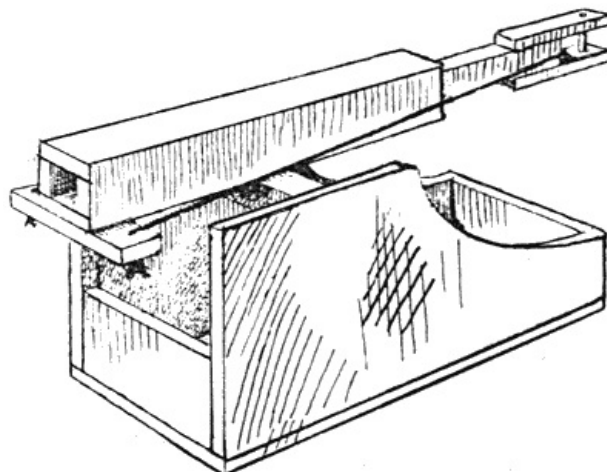

FIG. 16.
*Toy Cannon*—one quite easily made at a negligible cost and yet quite effective. The only extra cost will be that of a piece of strong elastic: the remainder being made of such things as cigar- or chocolate-box wood. Fig. 16 shows the finished article; and a careful study of this illustration will make clear much of the method of manufacture.